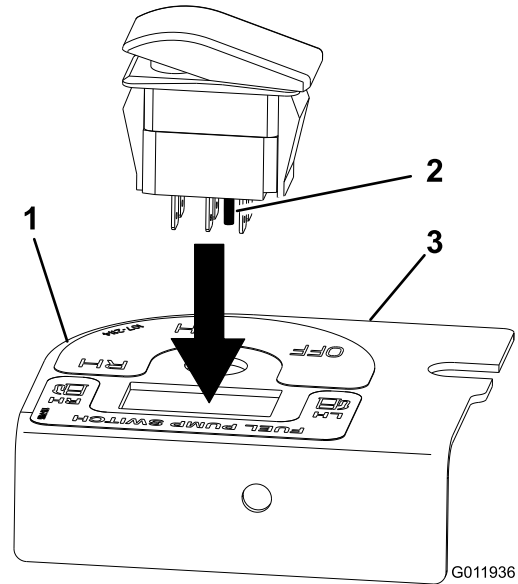

Figure 6
16. Install the switch into the bracket ensuring the locating pin on the bottom of the switch is on the left side of the unit (Figure 6).